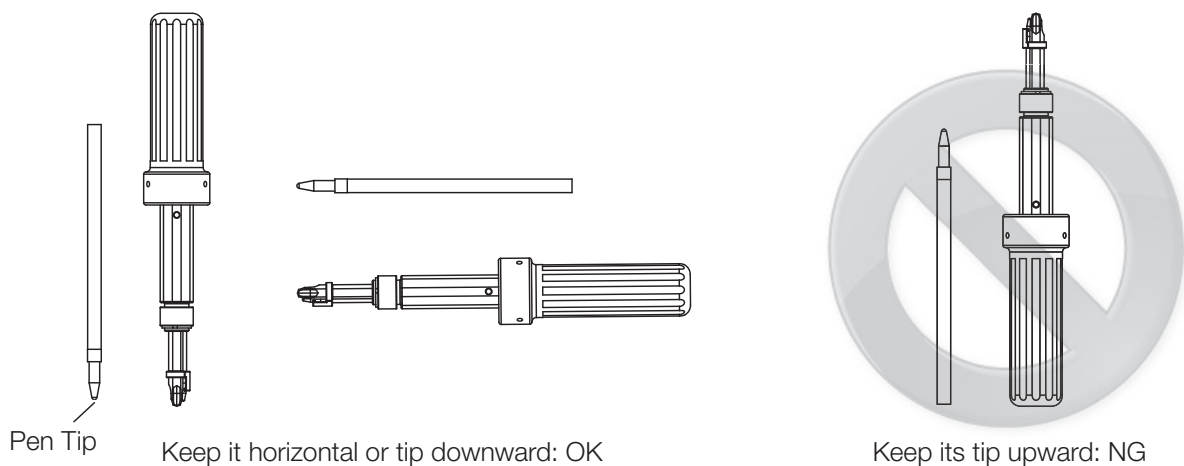

Fig. 7
- (1) Additional turning after MNTD clicks, it results in over-torque.
- (2) Use proper bits suitable to screws, otherwise, it may damage screw head.
- (3) Store MNTD marker at room temperature, less than 50 degree celsius.
- (4) Do not keep MNTD marker upward, Fig. 7.